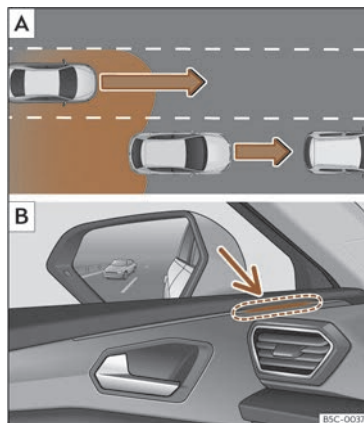
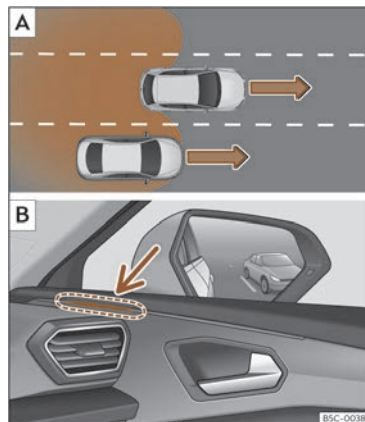

Fig. 143 Schematic diagram: **A**) Overtaking with traffic behind the vehicle. **B**) Side Assist indication on the left hand side.
Fig. 144 Schematic diagram: **A**) Overtaking in the central lane and then joining the right lane. **B**) Side Assist indication on the right hand side.
In the following situations, an indication will be displayed in the control lamp >>> **Fig. 143 B** (arrow) or >>> **Fig. 144 B** (arrow):
- When being overtaken by another vehicle >>> **Fig. 143 A**.
- When passing another vehicle >>> **Fig. 144 A** with a speed differential of approx. 10 km/h (6 mph). If the vehicle is passing at a considerably higher speed, no indication will be displayed.